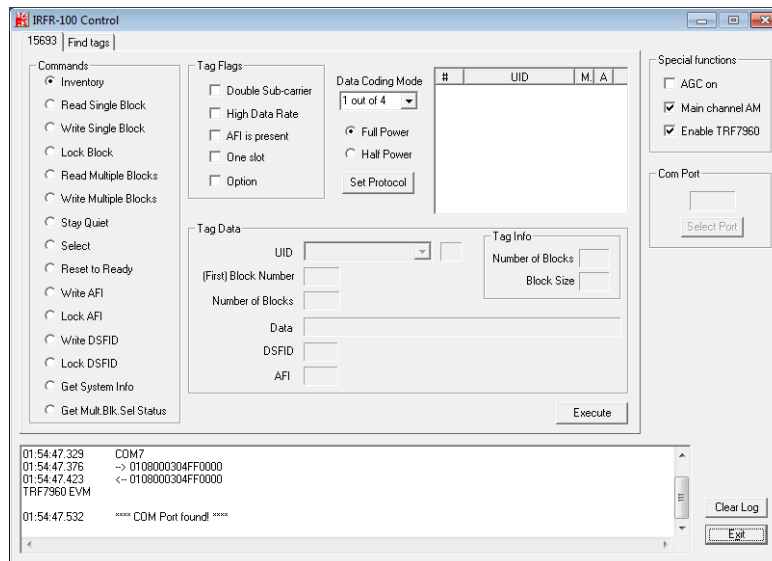

Figure 3-13: IRFR Screen
Step 3: The IRFR-100 window appears (**Figure 3-13**).